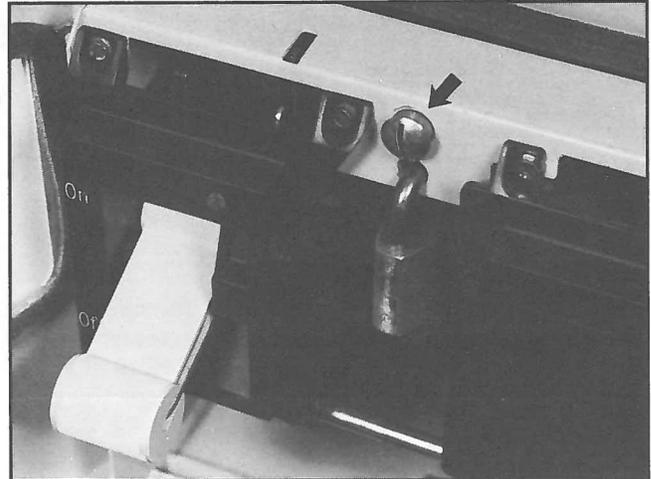

Fig. 25 Unit Locked in Detent Position
For maintenance and test purposes, the unit can be partially withdrawn (approximately 1½ inches) until the stabs are free of the bus. In this position, the quarter-turn latch can be rotated clockwise to engage the detent position slot, this will secure the unit to ensure the stabs remain disengaged during maintenance. See Figure 25. The latch can be padlocked in this position.
**CAUTION: Maintenance of control components requires that all power to these components be turned OFF by opening the branch circuit disconnect means and withdrawing the unit to the detent position (see Figure 25) or removing the unit entirely from the MCC. When units are fully inserted into the MCC, the line side of each disconnect is energized. Do not work on fixed units unless the main disconnect for the MCC is OFF.**